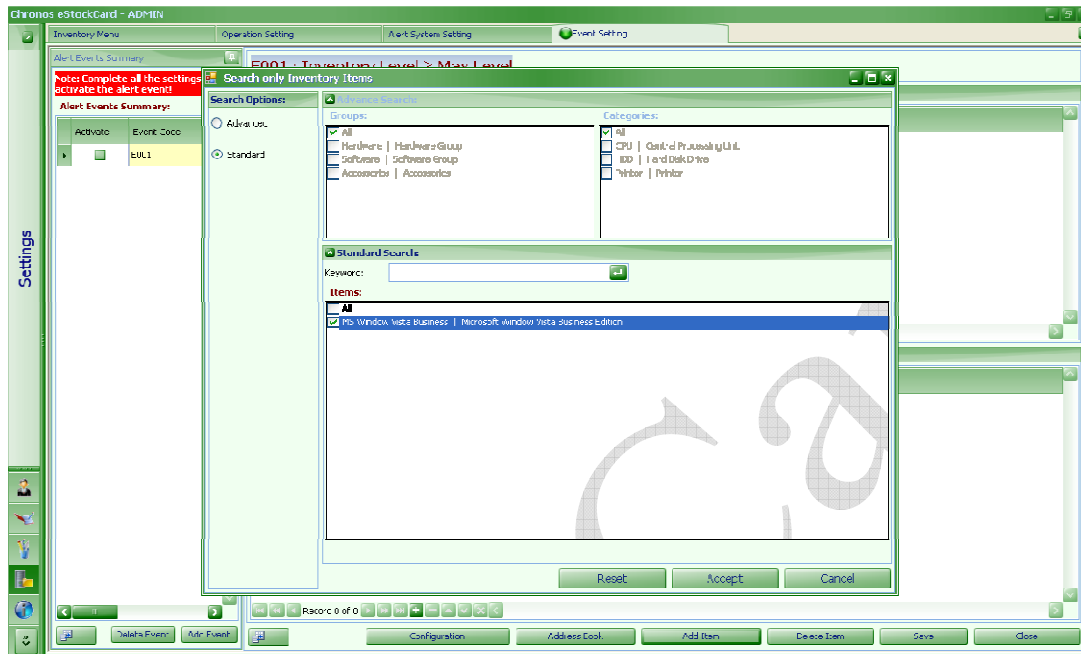

Fig. 66
Step 4 You must assign this event E001 to any specific item that you want to monitor. Select the row with “Event Code = 001” and click “Add Item”, you will see a new pop up. You can use default options, which is “Standard” search options. Type “MS” at Keyword field (Fig. 66)